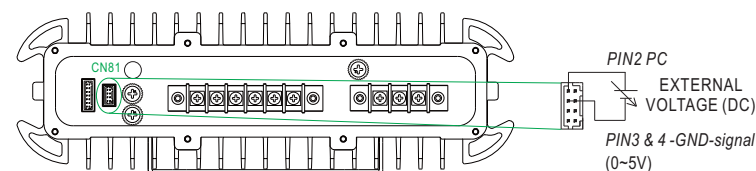

Figure 5-4
1. Connect output of the external DC source to PC and GND-signal, as shown in Figure 5-4. For detailed pin assignment of each type, please refer to chapter 4.